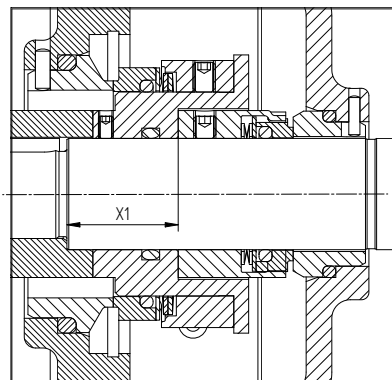

Figure 11: Adjusting the mechanical seal MD1.
- 6 Fit the rotating part of the mechanical seal (1220) onto the shaft. Adjust the rotating part of the mechanical seal to distance X1 from figure 11 and corresponding table. Lock it by fixing the set screw.